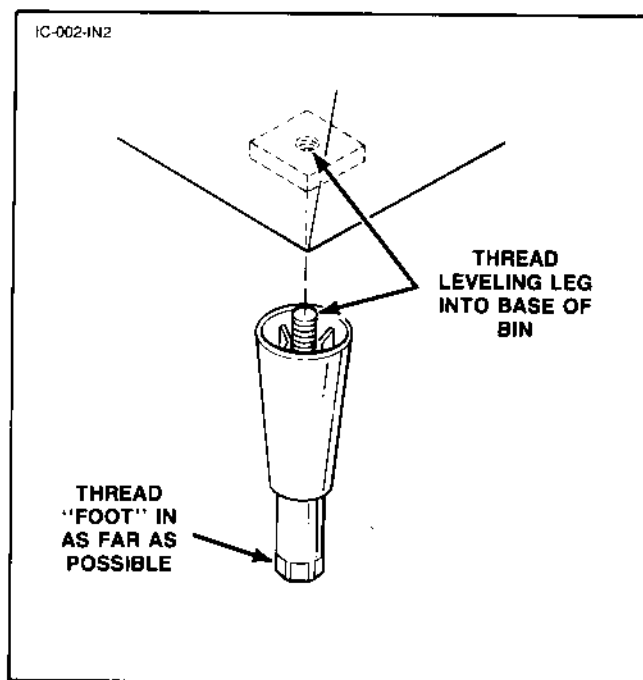

Figure 1
- e. Screw the leveling legs onto the bottom of the bin and screw the "foot" of each leg in as far as possible, Figure 1. Set the bin upright.